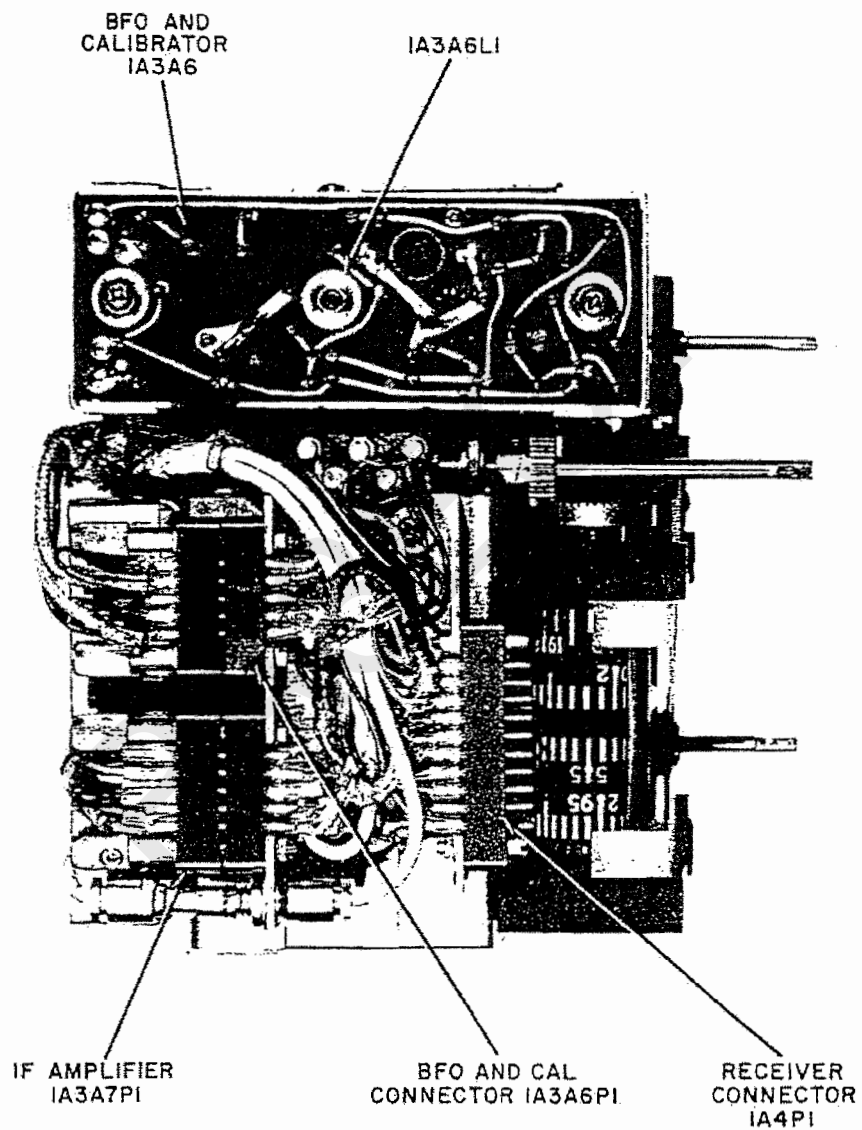

Figure 5-6. RR-224 Module Location (right side view)
- (1) Place the module in its can and guide the rubber grommet, which is around the cable, in the slot (figure 5-6).
- (2) Connect the module plug 1A3A6P1 and secure it.